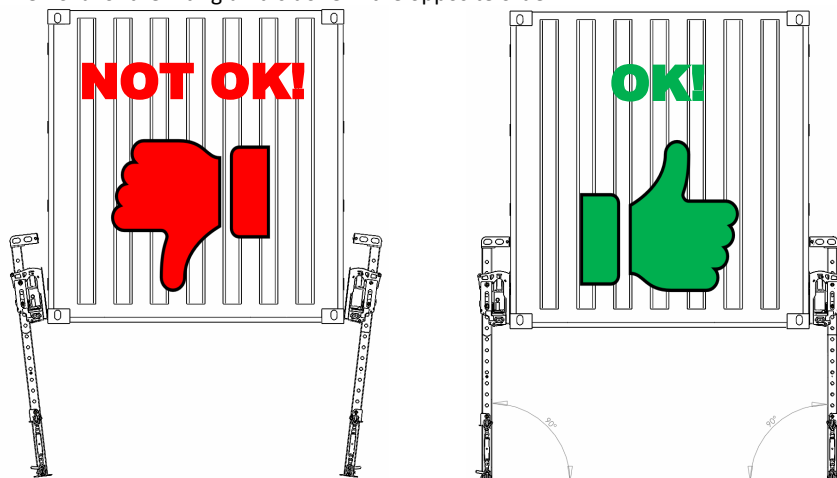
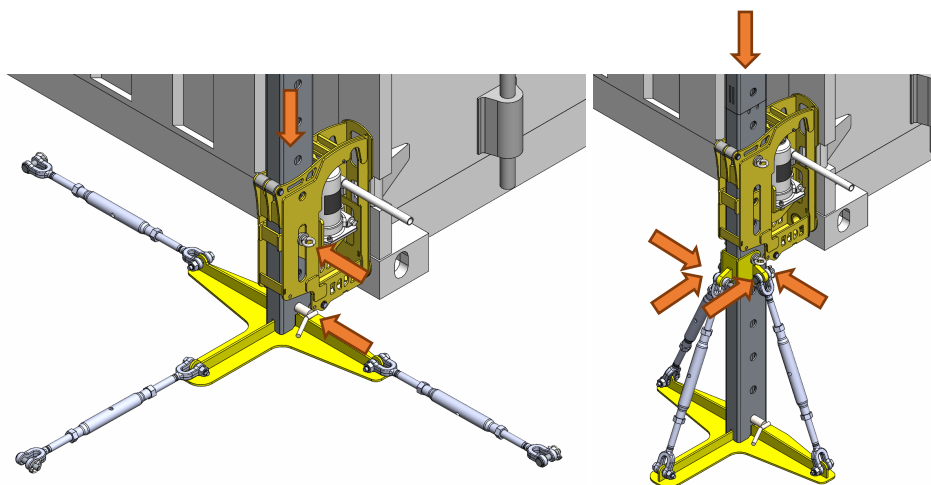

Figure 2 The correct installation of a CFU-leg
Figure 4 Mounting of climber unit, support leg assembly, lower main tube, support leg bracket and side and back supports.
3. Insert lower main tube through the climber unit to the support leg assembly and fasten with a main locking pin (**Figure 4**). Make sure that the main tube is completely perpendicular to the ground to avoid the climber getting stuck during the lifting or lowering! (**Figure 2**)
4. Insert support leg bracket to the lower main tube and fasten with a locking pin through the fifth hole from bottom, see **Figure 4**. If container is on the ground perform steps 6 to 11 to lift the container high enough to install support leg bracket
5. Attach support leg assemblies (3 pcs, 2 x side support and 1 x back support) to the support leg bracket with locking pins (**Figure 4**). If needed adjust supports length by rotating them
6. Insert upper main tube to the lower main tube (**Figure 4**)